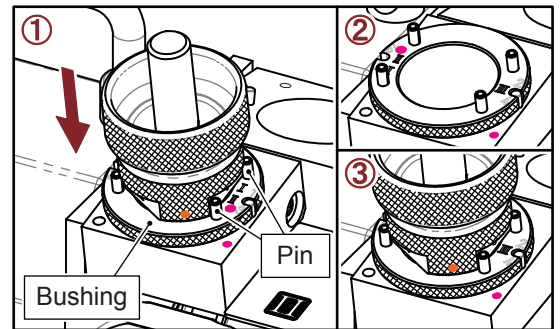

Fig. 5-19
2) 3 Flute End Gash Grinding (II) (Fig. 5-19)
① Insert the chuck set into the bushing on the Shelf (II), align Slot No.1 to the two pins where marked as No.(I·II), push the chuck set gently until the grinding noise stops. Turn the chuck set to grind the Slot No.2 in the same way.
② Take the chuck set out and turn the bushing to No.(III), align No.(III) to the pin on the shelf, then insert it to the end.
③ Insert the chuck set into the bushing, align Slot No.3 to the two pins where marked as No.(III), push the chuck set gently until the grinding noise stops.